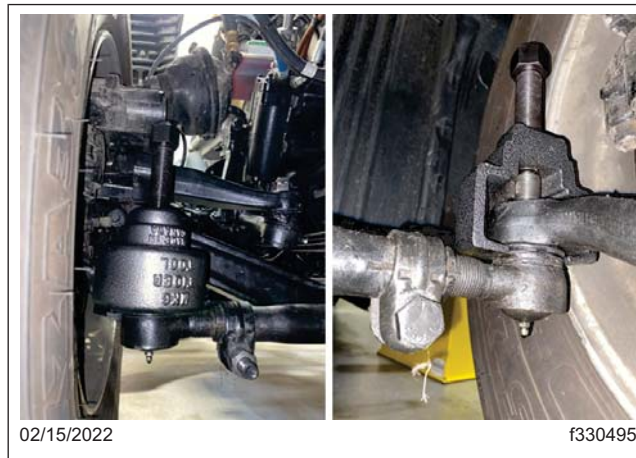

Fig. 2, Tie Rod End Removal
5. At both ends of the tie rod assembly, use a Tiger Tool® MK6 slack adjuster puller or equivalent, shown in Fig. 1 to remove the tie rod end from the tie rod arm as shown in Fig. 2.